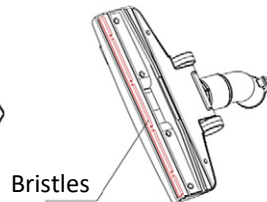

Fig. 13
4. As in **Fig.13**, tread on the pedal of the brush tool again to put the bristles in, and you can clean the carpet.